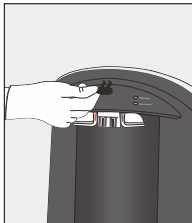

Figure 33
5. Insert the **access key** into the 2 holes located at the underside of the top edge of the cooler (above water levers) and push inwards (Figure 33 and Figure 34)(once unlocked, the front of the top cover opens upwards)